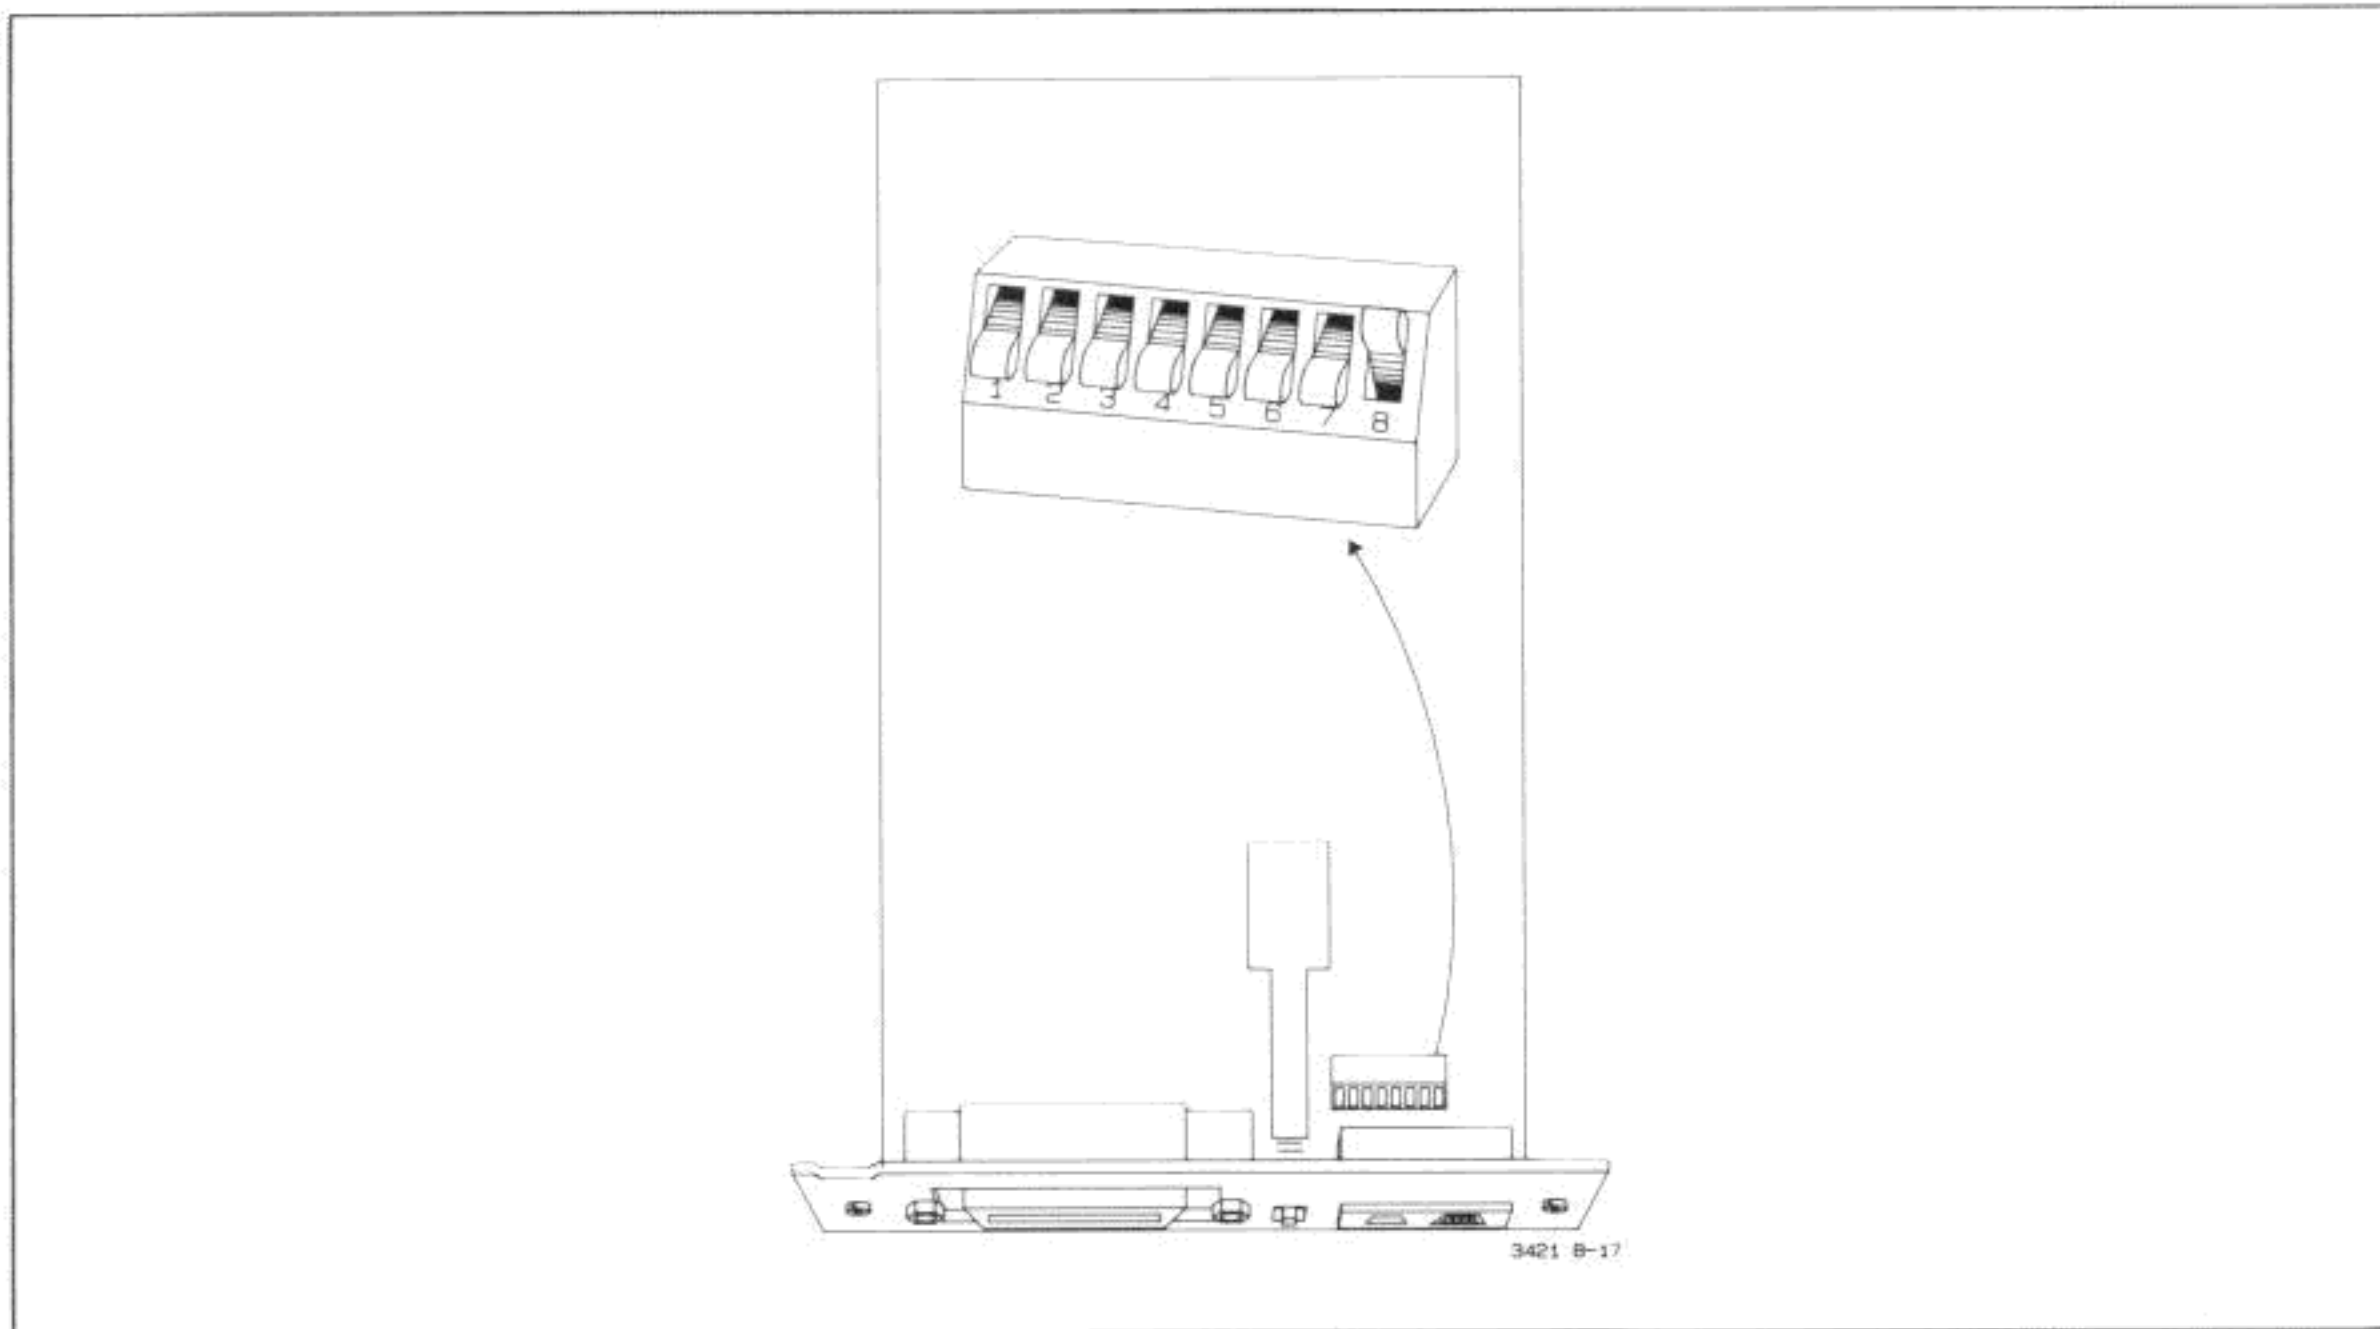

Figure 4-8-17. S802 Switch Settings for SA Test #2
- b. Refer to Figure 4-8-17 and set the switch segment of S802 as follows: